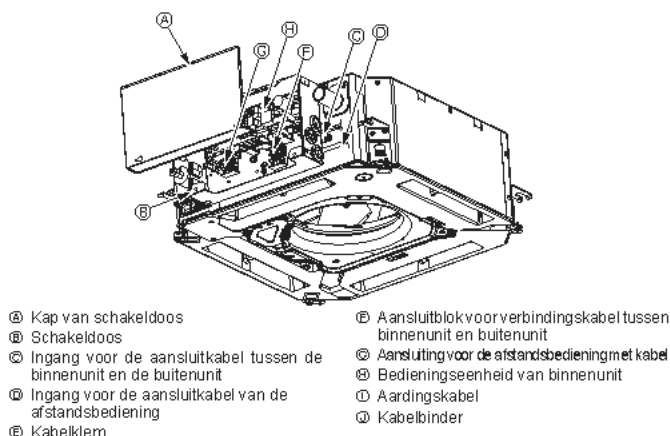
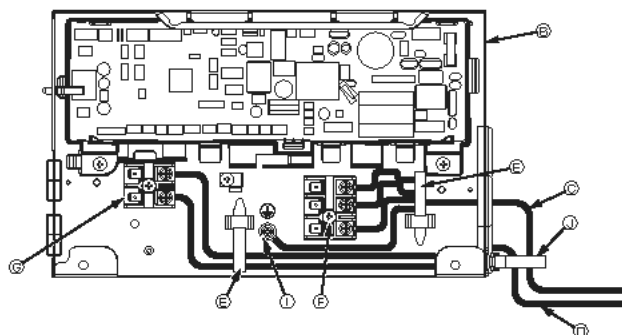

Fig. 7-1
Fig. 7-2
7.2. Binnenunit (Fig. 7-1) (Fig. 7-2) (Fig. 7-3)